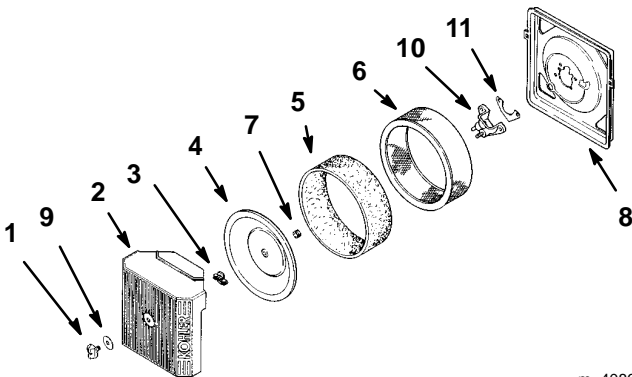

Figure 29
2. Clean around the air cleaner to prevent dirt from getting into the engine and causing damage. Unscrew the knob and remove the air cleaner cover (Fig. 29).
3. Carefully slide the foam element off the paper element (Fig. 29).
4. Unscrew the cover nut and remove the cover and paper element (Fig. 29).
1. Carefully slide the foam element onto the paper air cleaner element (Fig. 29).
2. Place the air cleaner assembly onto the air cleaner base (Fig. 29).
3. Install the air cleaner cover and secure with cover nut (Fig. 29).